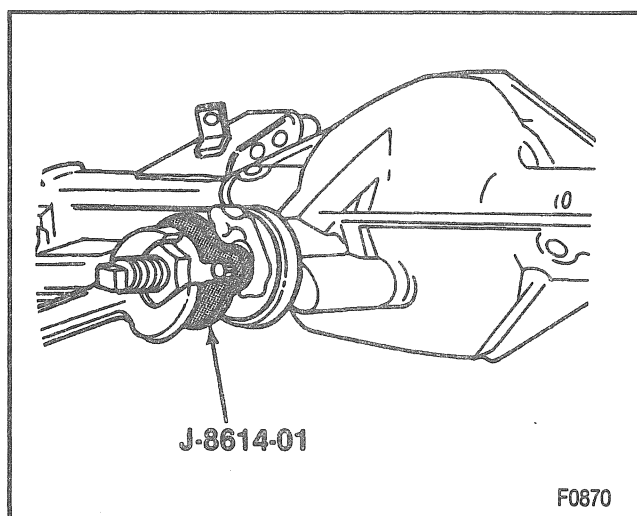

Figure 20—Installing the Pinion Flange
3. Flange onto the pinion using J 8614-01 (Figure 20).